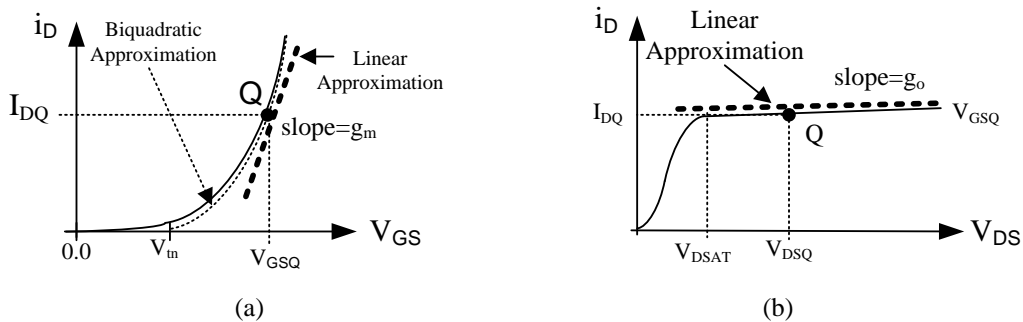

Fig.1 MOSFET characteristics: (a) input and (b) output.
The objective of this laboratory is to characterize and bias the MOSFET. A MOSFET can be characterized by several parameters, such as β_n and V_t . Fig. 1(a) shows the output and transconductance characteristics of an n-channel MOSFET and illustrates how β_n and V_m characterize the MOSFET. The large signal model for the n-channel MOSFET is given as follows:
For a given V_{GSQ} , the drain-source voltage can also be swept leading to the transistor's output characteristics shown in Fig. 1(b). The slope of the curve determines the transistor's output conductance, obtained as
2. To find V_{tn} and β_n , sweep V_{GS} from 0 to 5 V using increments of 1 mV with a nested sweep of V_{DS} from 3 to 5 V using increments of 0.5V. This will generate a series of I_D - V_{GS} characteristic plots similar to the one in Fig. 1(a). Use these plots to find the approximate value V_{tn} and β_n .
4. Using the same setup as in step 2. sweep V_{DS} from 0 to 5 V using increments of 1 mV with a nested sweep of V_{GS} from 1 to 5 V using increments of 0.5 V. This will generate a series of I_D - V_{DS} characteristic plots similar to the one in Fig. 1(b). Use these plots to find an approximate value for λ_n .